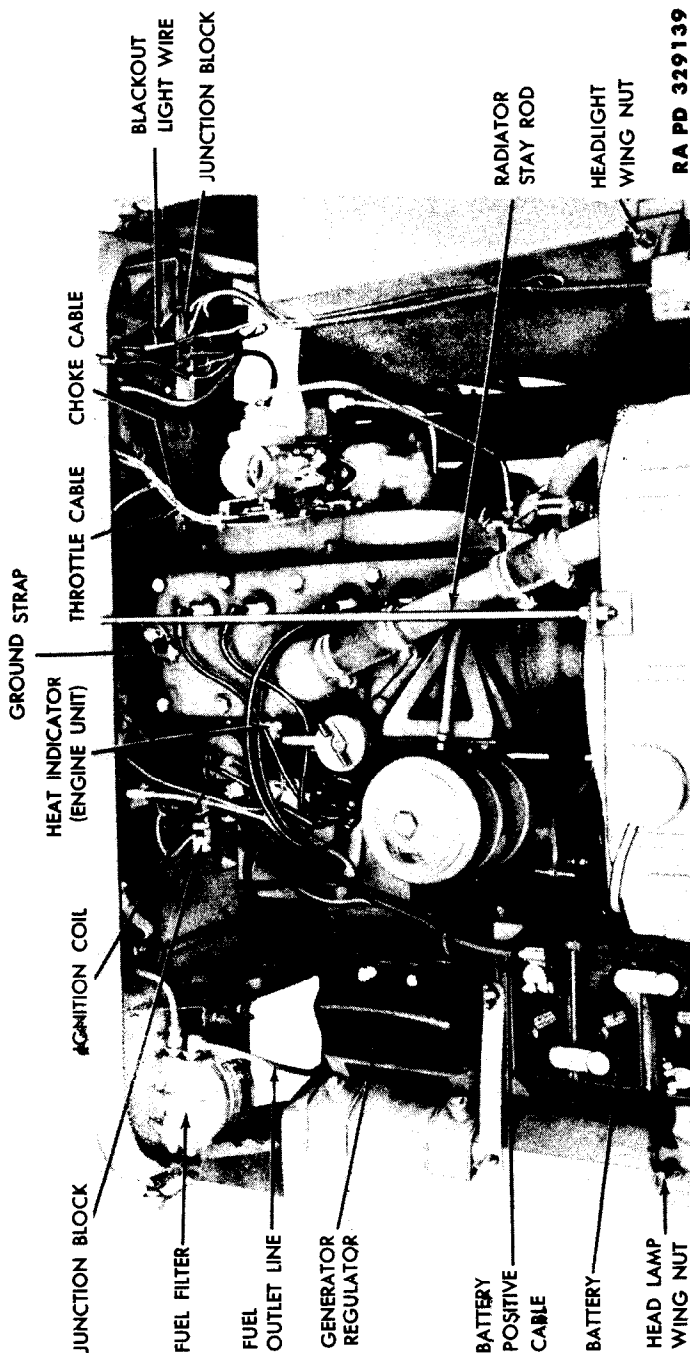

Figure 101 — View of Electrical Wires and Tubes on Cowl
g. **Disconnect Miscellaneous Wires and Tubes in Engine Compartment** (fig. 101). Disconnect the positive cable at the battery. Disconnect the wire leading from the junction block at the left side of the cowl to the generator regulator. Disconnect the wire leading from the ignition coil to the junction block. Disconnect the battery cable at the starting switch. Disconnect the ground strap leading from the cylinder to the cowl. *NOTE: When removing the wires, tag them for later identification.* Disconnect the fuel outlet line at the fuel filter. Disconnect the three wires leading from the left fender to the junction block at the left side of the cowl. Disconnect the blackout light wire at the connection at the cowl. Disconnect the two wires at the hydraulic brake master cylinder. Disconnect the wire at the bottom of the steering tube. Disconnect the choke and throttle cable at the carburetor. Disconnect the oil line leading to the oil gage at the flexible connection at the left side of the engine. Disconnect the radiator stay rod at the radiator and cowl and remove the stay rod. Drain the coolant from the radiator and remove the heat indicator (engine unit) at the right-hand side of the cylinder head.
e. Install Miscellaneous Wires and Tubes in Engine Compartment (fig. 101). Install the heat indicator (engine unit) at the right-hand side of the cylinder head. Install the radiator stay rod to the radiator and at the cowl. Connect the gage oil line at the flexible connection on the left side of the cylinder block. Connect the choke and throttle cables at the carburetor. Connect the horn wire at the bottom of the steering post. Connect the two stop light wires at the hydraulic brake master cylinder. Connect the blackout light wire at the connection at the cowl. Connect the three headlight wires on the left fender to junction block at the left side of the cowl. Connect the ground strap leading from the rear of the cylinder head to the cowl. Connect the battery cable at the starting motor switch. Connect the wire leading from the coil to the junction block at the right-hand side
a. Remove Battery (fig. 101). Disconnect the positive and negative cables from the battery. Remove the two wing nuts that secure the battery hold-down rack and remove the rack from the battery.
m. Install Battery (fig. 101). Place the battery in the battery rack. Install the hold-down bracket on the battery. Install the two wing nuts that secure the hold-down bracket. Connect the negative and positive cables to the battery.